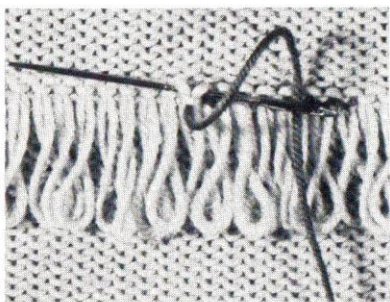

Fig. 47
- 9) Using the tapestry needle and bind off. (See Fig.47 and Fig.48)